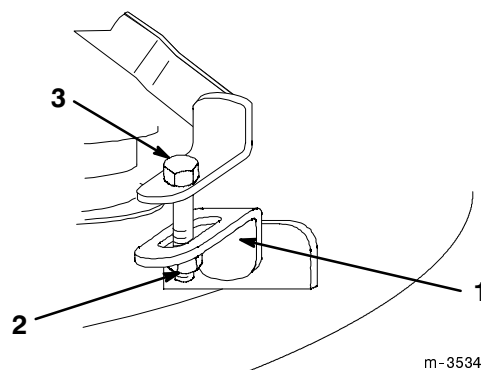

Figure 13
6. To adjust front-to rear blade level loosen jam nut on front adjustable link. (Fig. 13).
7. Rotate the bolt on front adjustable link to change front-to rear blade level (Fig. 13).